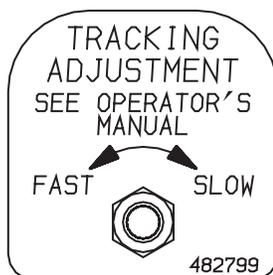

Figure 12. Neutral Adjustment
4. Starting on the left side of the machine, using the adjustment wrench located on the left side of the machine. Rotate the tracking adjustment nut counter clockwise just until the LH wheel starts to creep forward. Make a note of the position of the adjustment nut. (See Figure 12).